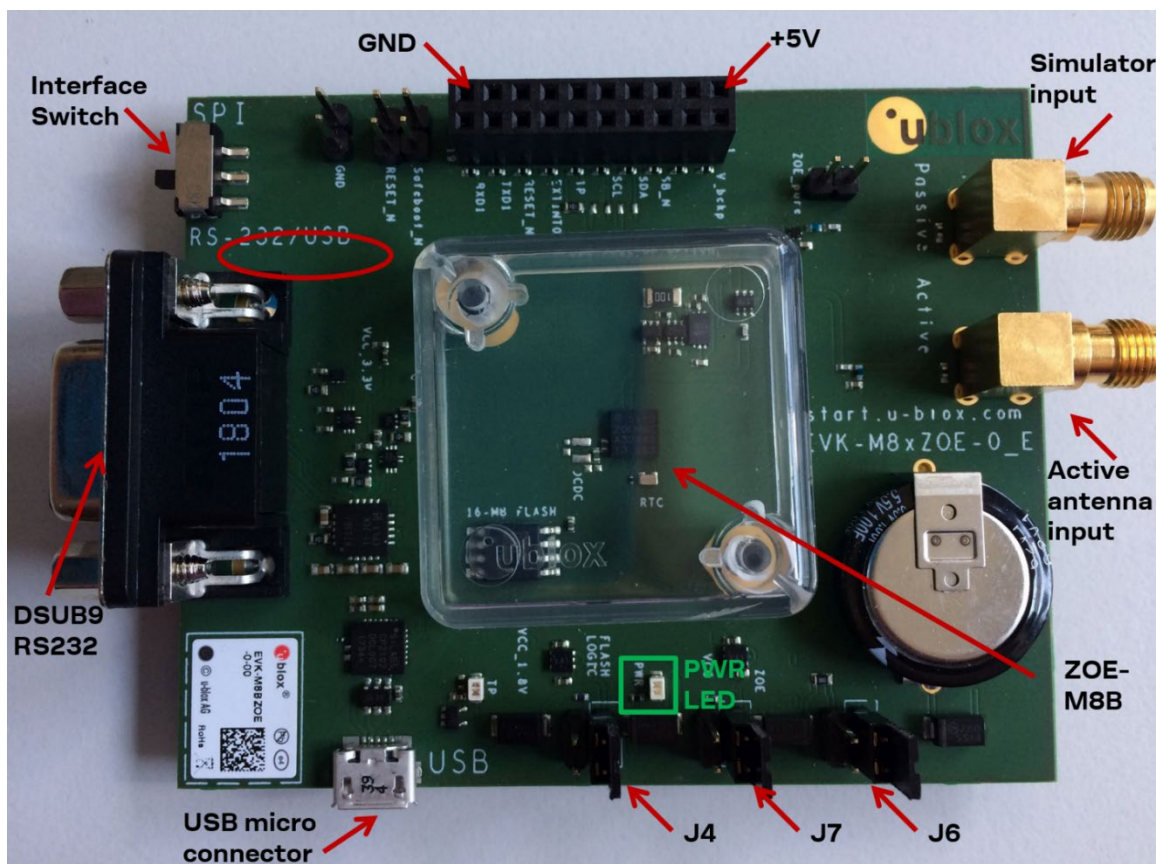

Figure 1: Getting started overview
This section describes the evaluation board connectors and configuration settings that are required to get started. Figure 1 shows an overview of EVK-M8BZOE board and its connectors.
- The green LED (“PWR LED” in Figure 1) is turned on when power supply is connected.
The EVK-M8BZOE board must be supplied either by the micro USB connector or by an external 4.5 V – 5.5 V power supply connected to digital connector pin 2 and GND to pin 18, see Figure 1.
The Interface Switch has to be set according if either the UART (RS232/USB) and DDC (I²C) or the SPI interface is used. See Figure 1 for location of interface switch.